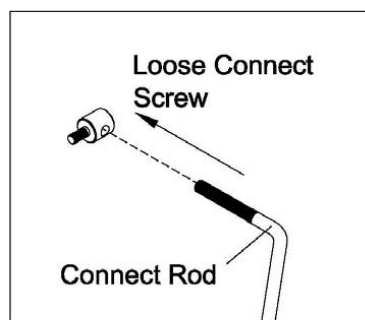
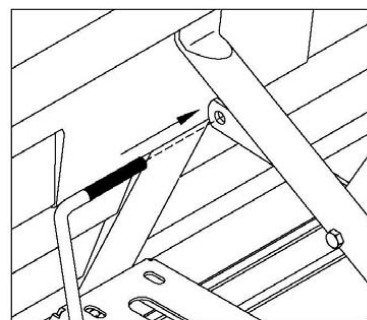
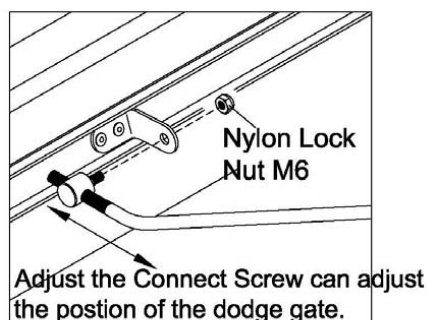

Figure 7
Figure 8
Figure 9
4. Loose one Connect Screw from the Connect Rod. See Figure 7. Insert the Connect Rod to the hole below the Flow Control Handle fix with the Connect Screw. See Figure 8. Attach the Connect Screw on two end of Connect Rod to the Fix Bracket on Dodge Date, secure by Nylon Lock Nut M6. Do not secure the nuts too tight, the connect screw can rotate by itself. See Figure 9 & 10.